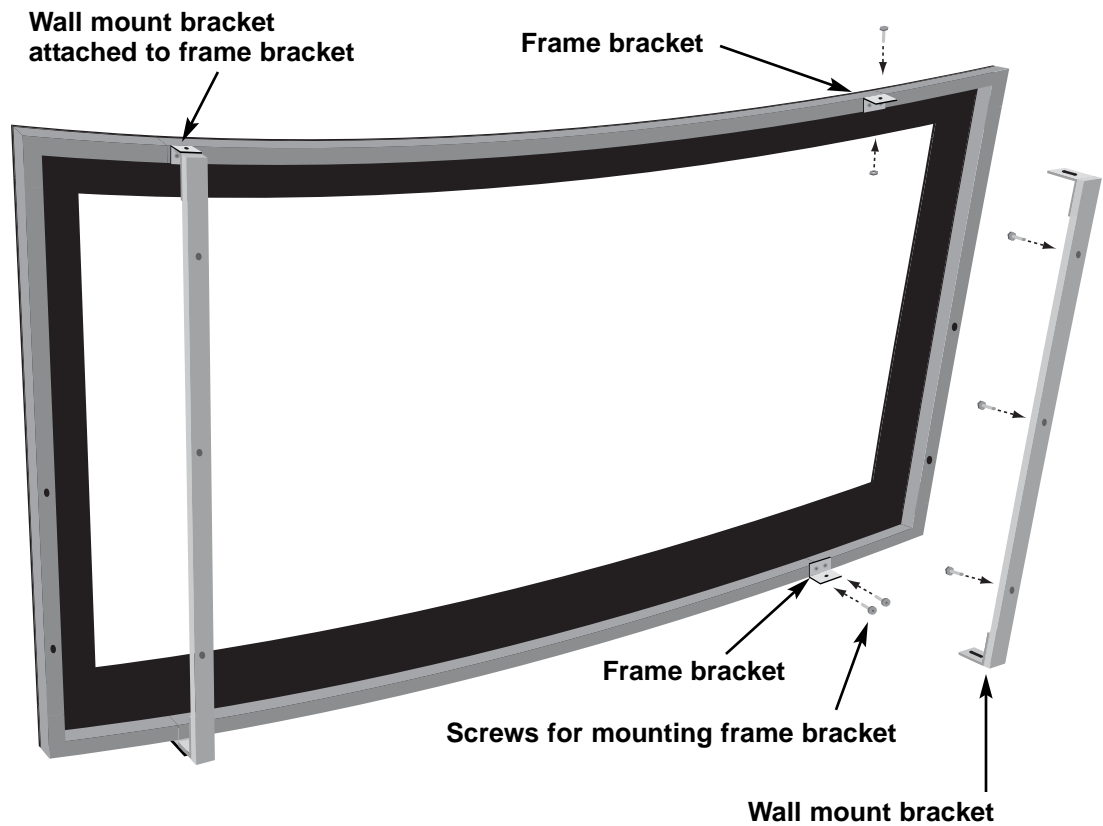

Figure 2: Attaching wall mount brackets
3. During shipping, the frame brackets are attached to the wall mount brackets. Detach the frame brackets from the wall mount bracket and attach them to the frame using two 1/4-20 Allen head machine screws per bracket. See Figure 2.